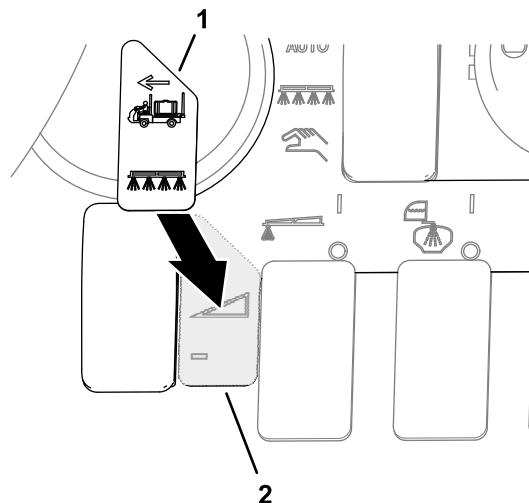

Figure 40
4. Apply the transport decal over the dash decal as shown in Figure 40.